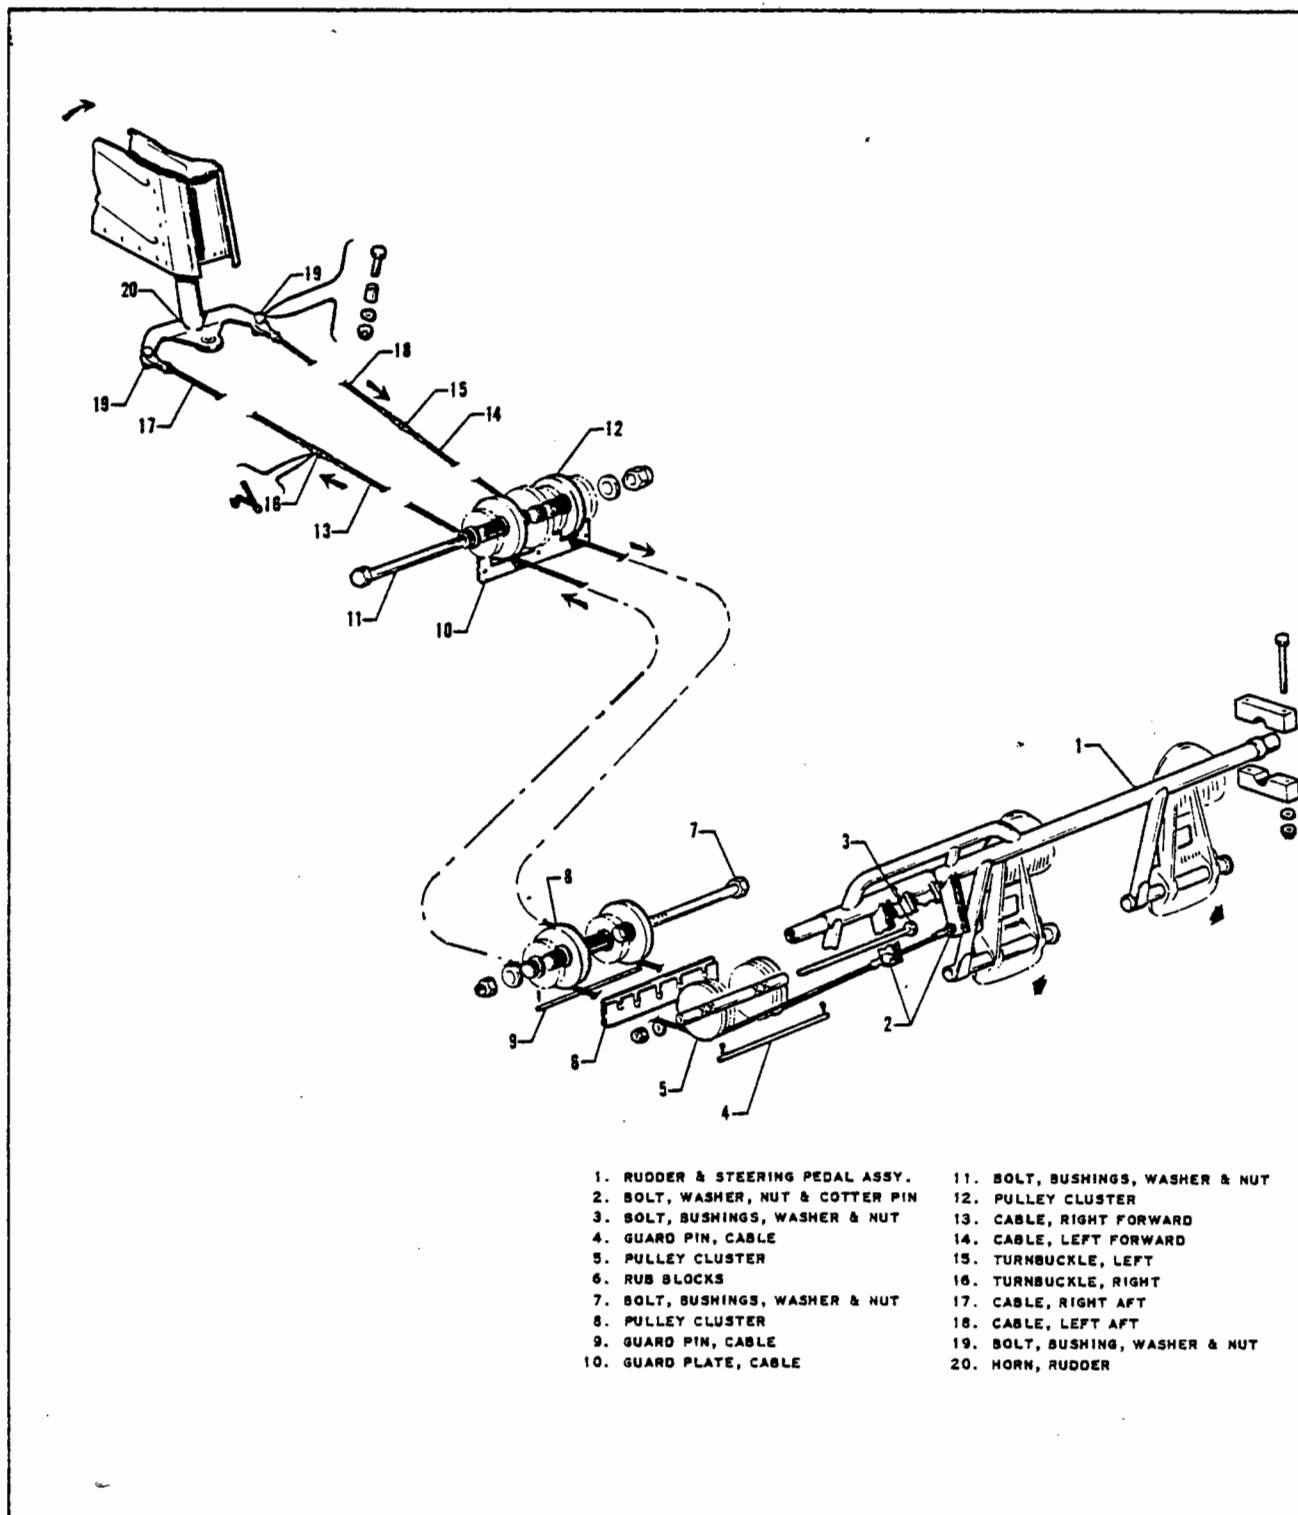

Figure 27-8. Rudder Controls
REMOVAL OF RUDDER CONTROL CABLES. (Refer to Figure 27-8.)
INSTALLATION OF RUDDER CONTROL CABLES. (Refer to Figure 27-8.)
A. Refer to Figure 27-8 to position the control cable.